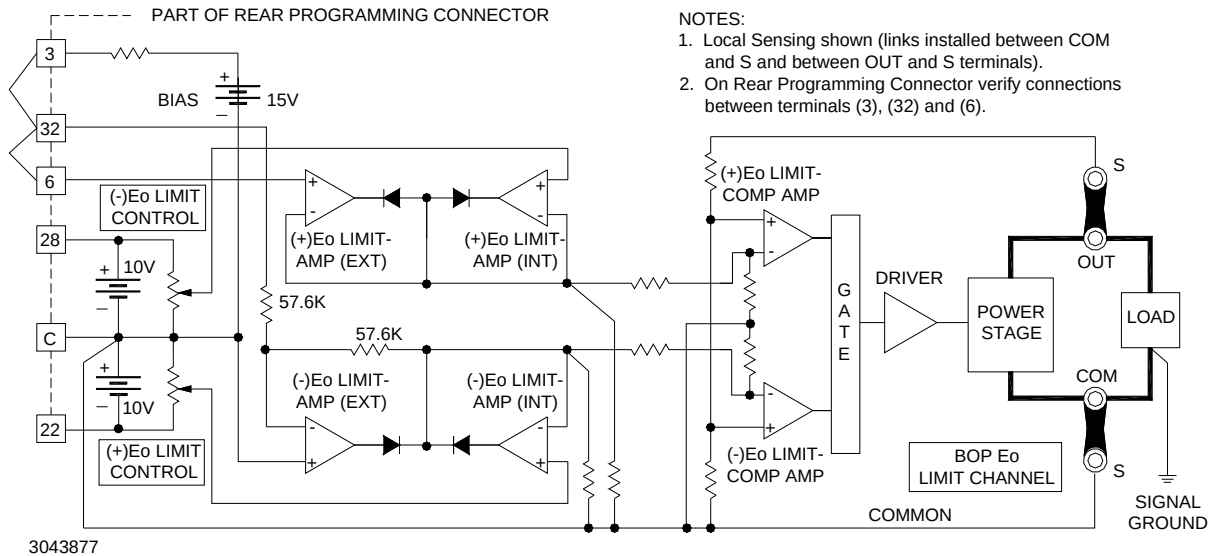

FIGURE 3-5. BOP ($\pm$) VOLTAGE LIMITING CIRCUIT (LOCAL CONTROL, LOCAL SENSING)
- $(\pm) E_O$ Limit Circuits: see Figure 3-5 and PAR. 3.3.4 for local control.
Figure 3-5 shows the Voltage Limiting circuit configured for local sensing and local (front panel) control. The circuit functions in a manner similar to the I_o Limit circuit described previously (refer to PAR. 3.3.2), except that the voltage limit feedback is derived by means of a voltage divider across the BOP output.